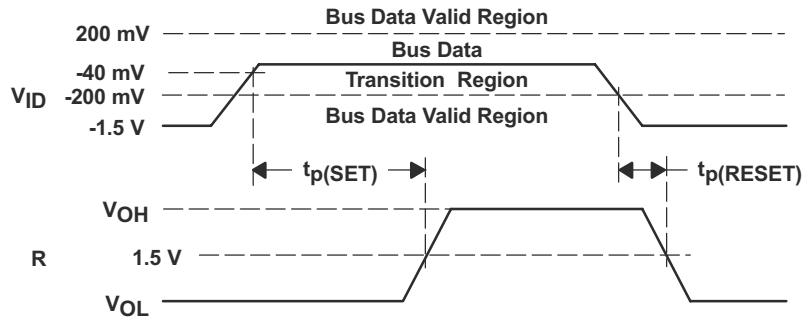

Figure 23. Receiver Active Failsafe Definitions and Waveforms
(1) H = high level, L = low level, Z = high impedance (off)
(2) If the differential input  $V_{ID}$  remains within the transition range for more than 250  $\mu\text{s}$ , the integrated failsafe circuitry detects a bus fault, and set the receiver output to a high state. See Figure 23.